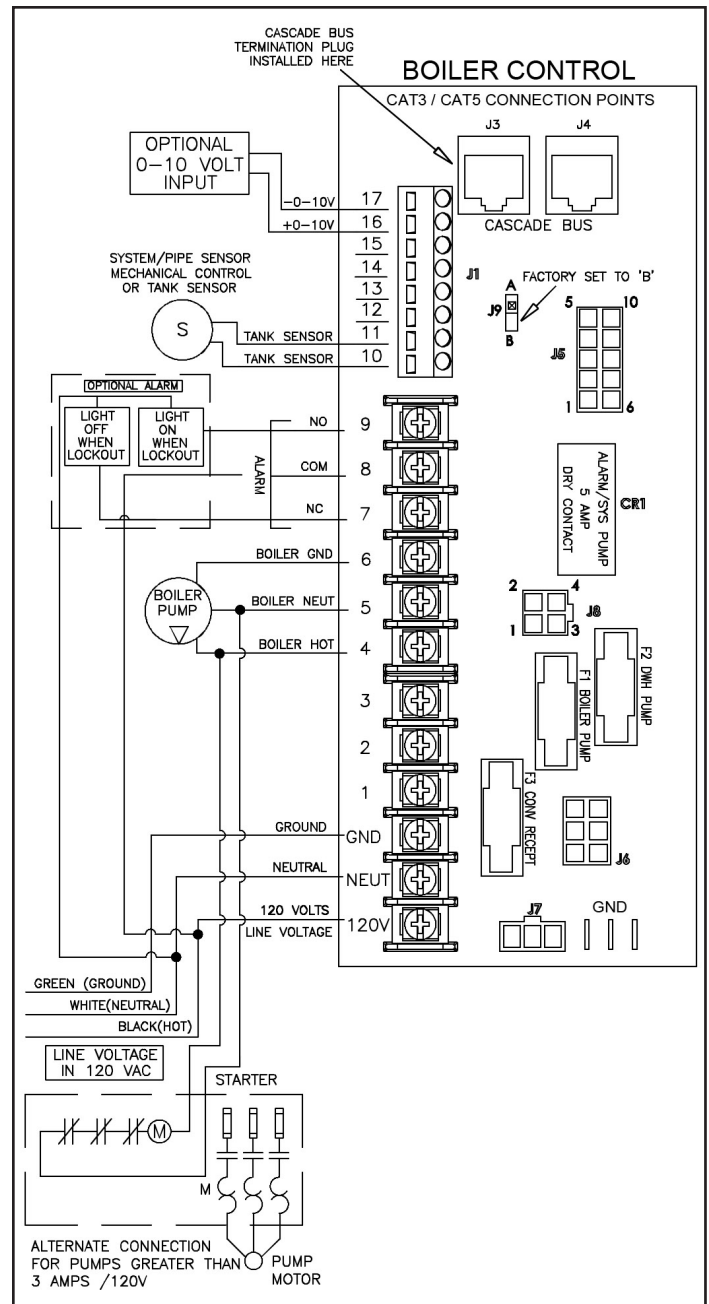

Figure 26 - VWH Control Wiring
The Mod Con VWH application requires a circulator pump for each boiler. Circulator pumps can be wired directly to the controller as shown in Figure 26 or wired directly to line voltage for continuous operation. Only wire the circulator pump to the controller if a tank sensor or mechanical control can be mounted to the storage tank, otherwise circulator pumps must be wired to run continuously. The circulator pump wired to the boiler control will have a default program of a 5 minute post purge to provide stabilization and post cleaning of the heat exchanger. The boiler control is capable of supplying 120 volts at up to 3 amps to run the circulator pump. If using a larger circulator pump requiring more than 3 amps or higher voltage, an external motor starter, sized appropriately for the pump motor, must be used. This starter should have a 120 VAC coil. If a starter with a 120 VAC coil is used, it can be wired directly to the appropriate pump terminals as shown in Figure 26.
NOTE: A termination plug is included in the CAT 3 / CAT 5 Bus Connection Point, labeled J3 in Figure 26. DO NOT REMOVE THIS PLUG! Doing so will affect boiler operation and void warranty.
1. Connect the incoming power wiring to the line voltage terminal strip in the electrical junction box at terminals 120V, Neutral, Ground (shown in Figure 26).
The control includes a dry contact alarm output. This is an SPDT circuit, rated at 5 amps at 120 volts. This contact can be used to activate an alarm light or bell or notify a building management system if the boiler goes into a lockout condition. The circuit between the ALARM COM and NC terminals is closed during normal operation and the circuit between ALARM COM and NO is open during normal operation. The connections depicted in Figure 26 show two 120 volt lights connected to the alarm terminals. One light will be on when the boiler is in normal mode and the other light will be on when the boiler is in lockout mode.
Connect the tank sensor or mechanical controls to the TANK SENSOR terminals (10, 11) of the low voltage terminal strip as shown in Figure 26. The control will automatically determine which type of sensor is connected and operate accordingly.
The system/pipe sensor can be used to control the temperature of the storage tank when a tank sensor or mechanical control cannot be mounted. The system/pipe sensor would be wired into the terminals of the low voltage terminal strip as shown on Figure 26. It is important to note that when a system/pipe sensor is used, the circulating pump must be wired to operate continuously; otherwise the boiler will short cycle.
2. Connect a building management system or other auxiliary control signal to the terminals marked 16, 0-10 VOLT + and 17, 0-10 VOLT – in the electrical junction box (shown in Figure 26). Caution should be used to ensure that the 0-10 VOLT + connection does not become connected to ground.